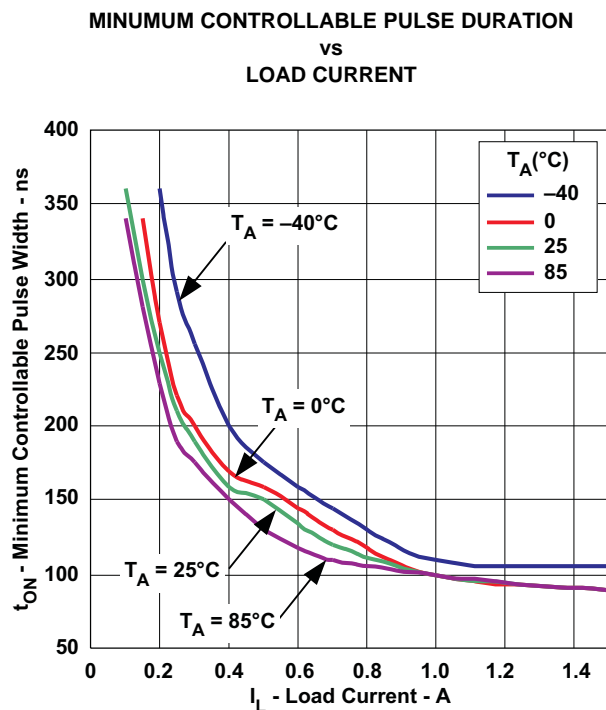

Figure 14.
(3) Ensured by design. Not production tested.
(4) See Figure 14 for I_{SWx} peak current $< 1\text{ A}$.